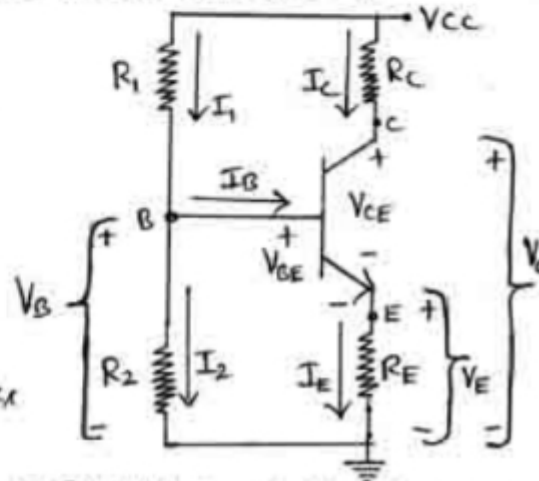

Fig 21: Voltage - divider bias circuit
- > A voltage divider bias circuit is shown in fig 21.
- ① Approximate Method @ Analysis
- ② Exact @ Accurate @ Precise Method @ Analysis
① Approximate Method: (Fig 21)